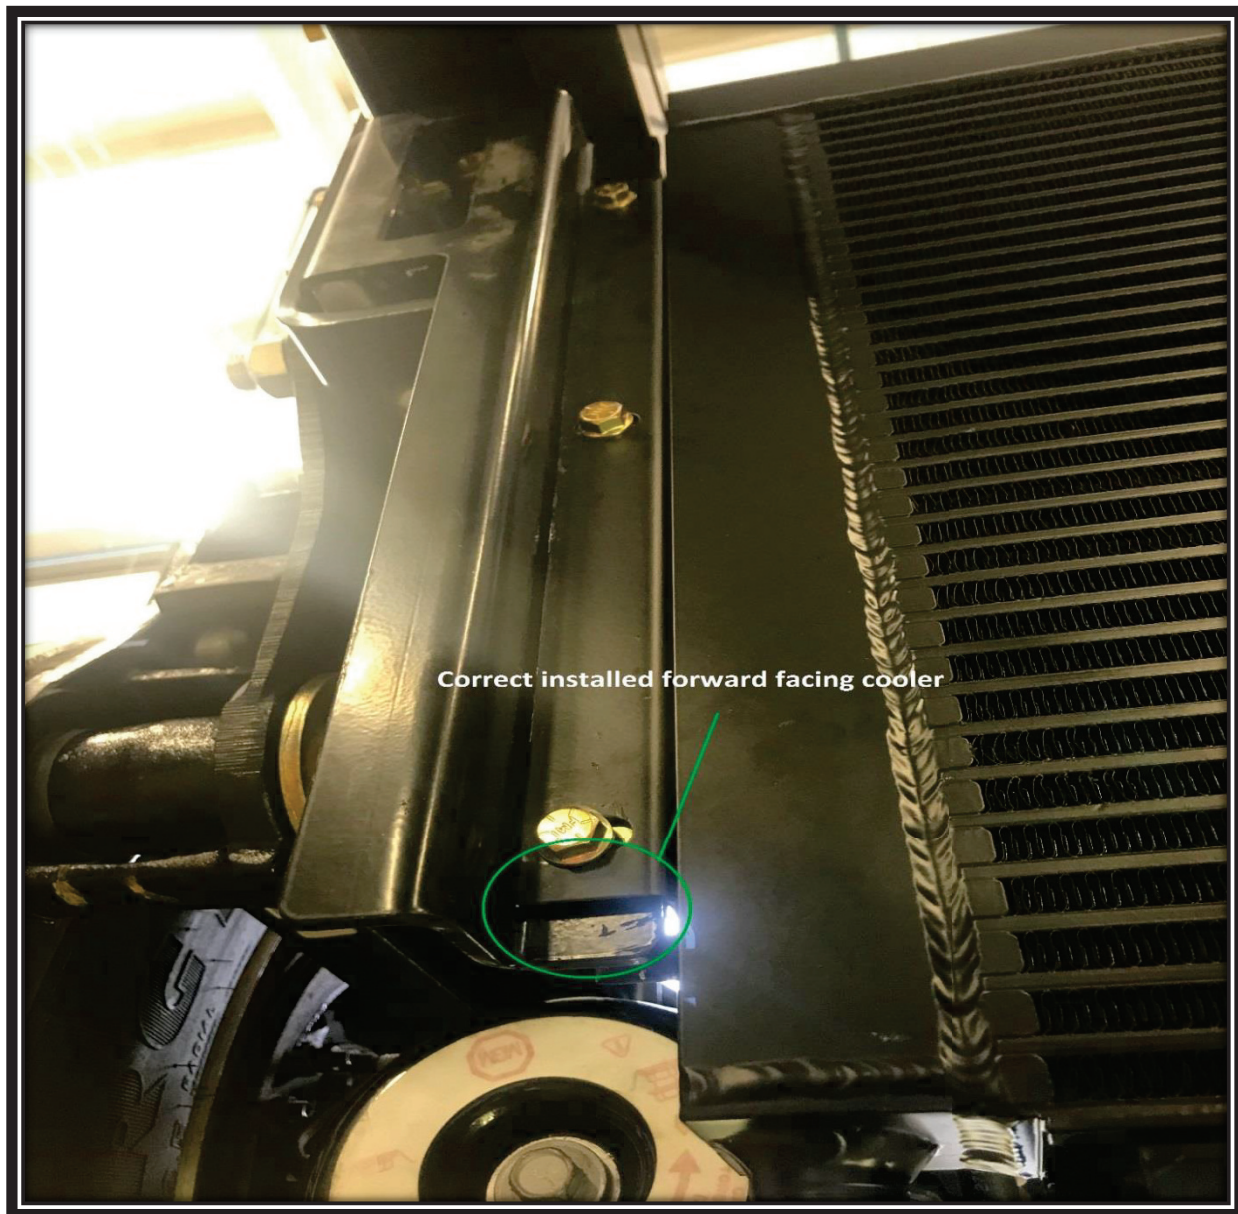

FIG. 5-1
5. Install hydraulic oil cooler on forward side of mounting bracket, using retained fasteners. Refer to FIG. 5-1